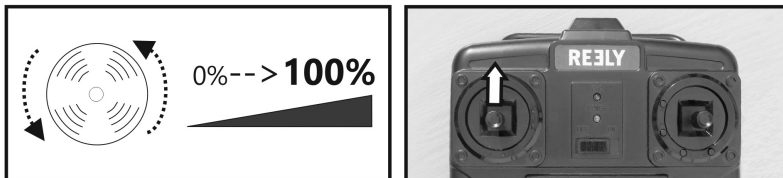

Figure 9
- Push the control lever for the motor function slowly from the bottom to the top position (figure 9). The rotor will start up and increase speed depending on control lever position.